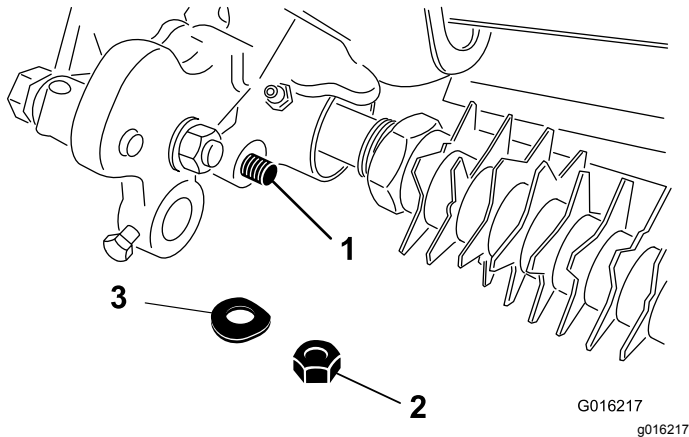

Figure 14
- Secure the adjuster-arm assembly-rod end to the groomer drive assembly with the previously-removed washer and locknut (Figure 14).
- Secure the adjuster-arm assembly-rod end to the groomer drive assembly with a washer and locknut (Figure 14).